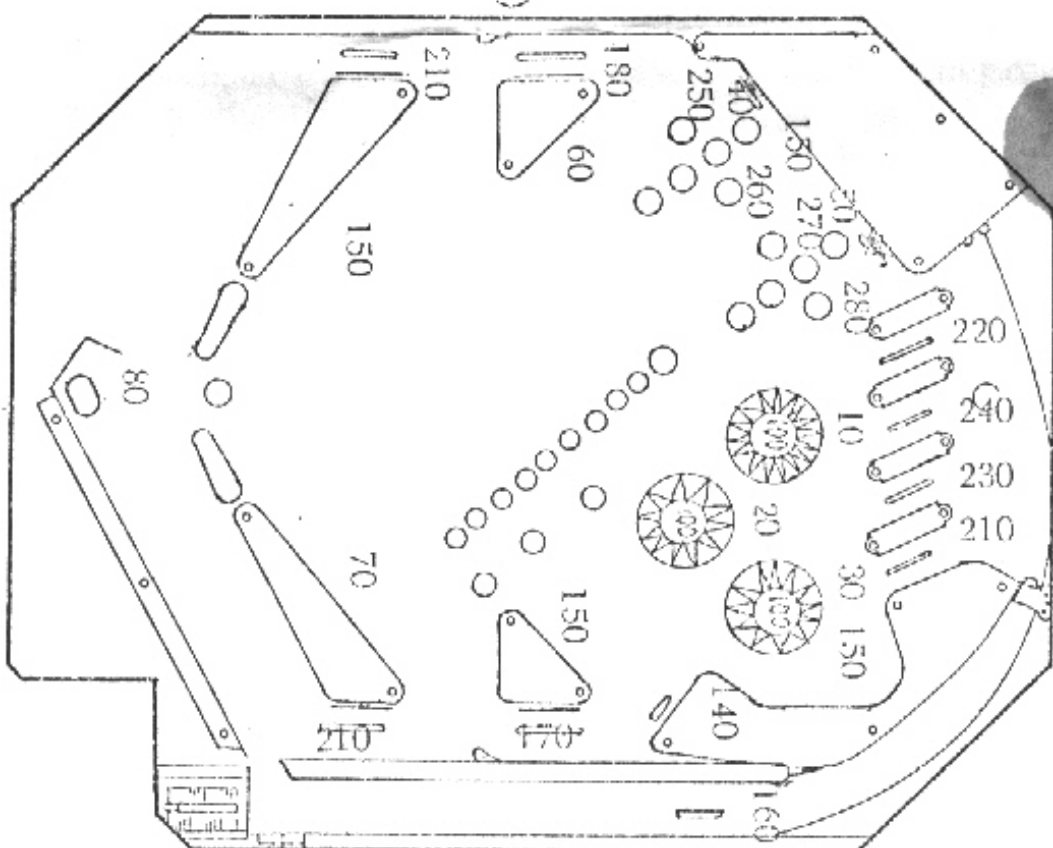

FIGURE 2
- B. Momentarily press (for 5 seconds) the credit button. The credit unit will display 2. Score unit 1 will show the number of any switch that is closed. Use the switch location chart figure 2 to identify the switches with their numbers. If score unit 1 displays 0, then no switches are closed.